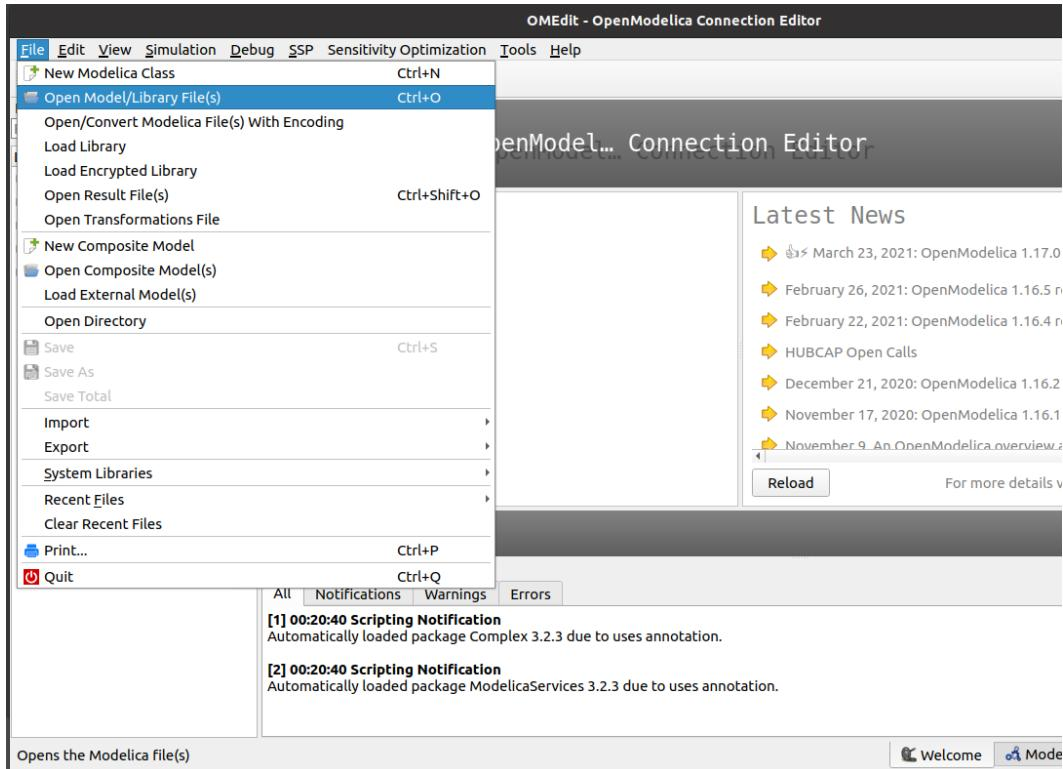

Figure 3.9: Opening a model in OMEdit
The files or models in OpenModelica have ‘.mo’ extensions. Though there are several ways to simulate or run an OpenModelica model, we will execute the models by utilizing the user interface of OMEedit. To open a model in OMEedit, go to the menu bar of OMEedit and click on File -> Open Model/Library File(s), as shown in Fig. 3.9. Then, select the desired model (with ‘.mo’ extension) and click Open. The names of tabs in this book have been mentioned according to OpenModelica 1.17.0. You might observe a bit of difference in these names while working with other versions of OpenModelica.
2. After launching, we have to load OpenModelica-Arduino toolbox. To do so, go to the menu bar of OMEdit. Click on File and then click on the Open Model/Library File(s) option as shown in Fig. 3.9.